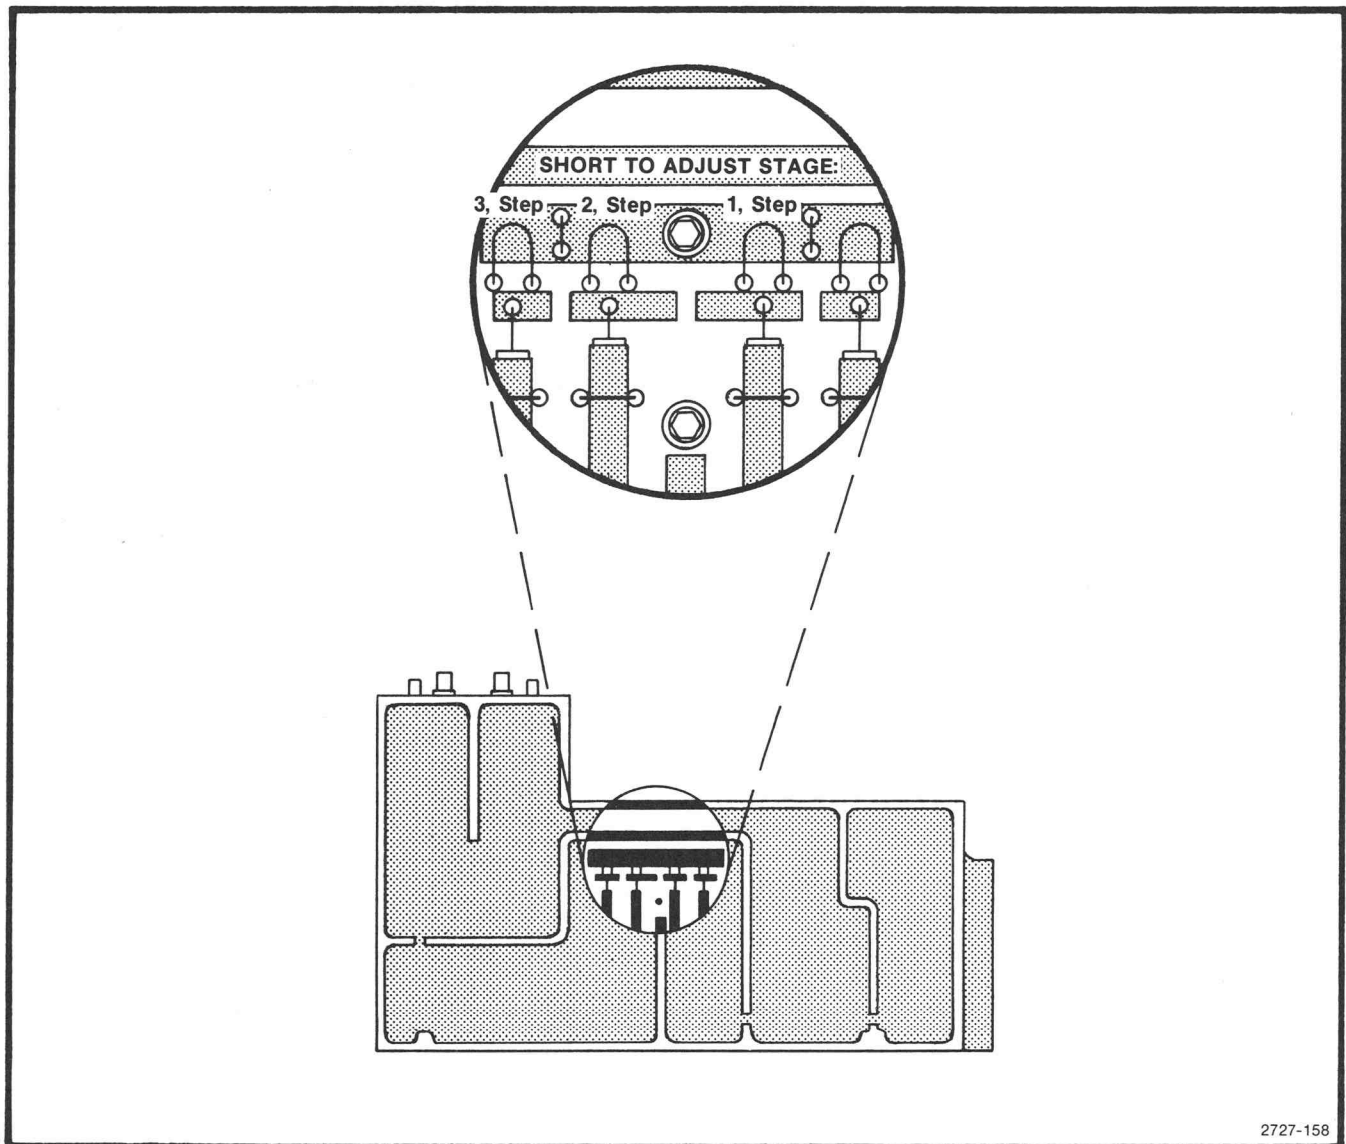

Fig. 4-15. Filter tune tabs in the 829 MHz converter.
f. Adjust the $1/4$ wavelength lines in the filter in sequence, starting with the resonator at the 829 MHz input (see Fig. 4-15). Adjustment is made by shorting the adjacent resonator to ground with a low inductance conductor, such as a broad blade screw driver, then bend the loop or tab of the respective stub with a non-metallic tuning tool to change the series capacitance of the resonator.